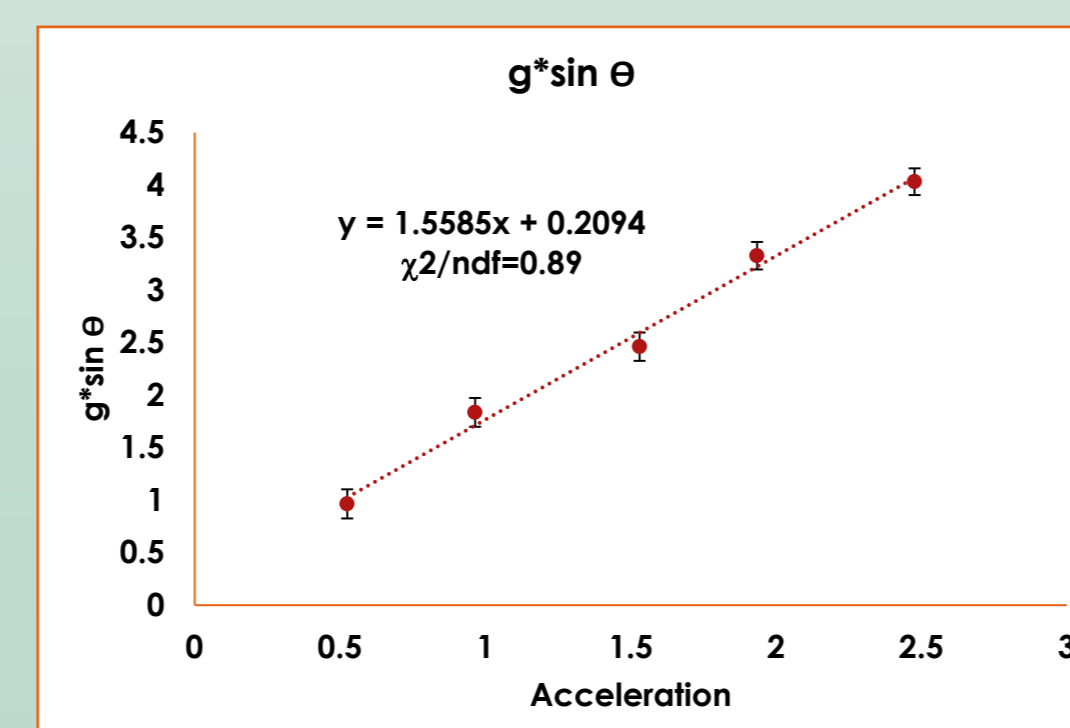

Figure 1. A linear fit to data in Excel with χ^2 .
- A fit to data from inclined plane experiment is shown in Figure 1. χ^2 is calculated with y-error bars only as they are much larger than x-error bars (not visible on the plot).